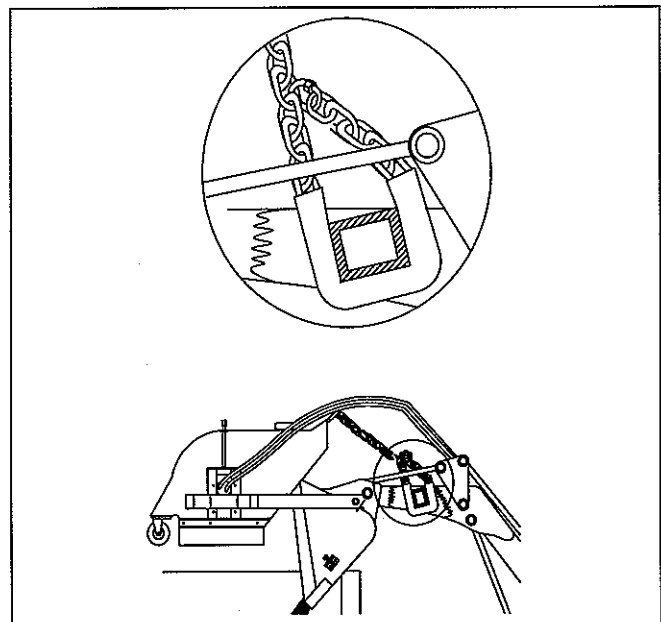

figure 2
NOTE – Use 2 clevis pins, 2 rubber hoses and 2 quick links to attach the chain to the loader (figure 2).
4. Attach chains to a convenient location on the prime mover arms, such as a cross bar or step. Leave the chains loose with equal slack on both (figure 2). Do not entangle hydraulic hoses when installing.